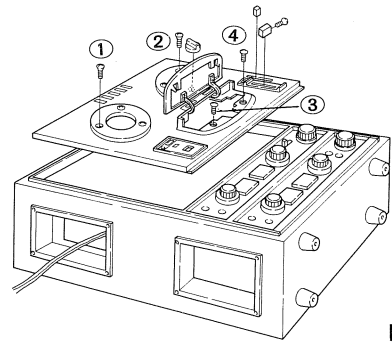

Fig. 4
3. Remove screws 1, 2, 3, 4 in Fig. 4.